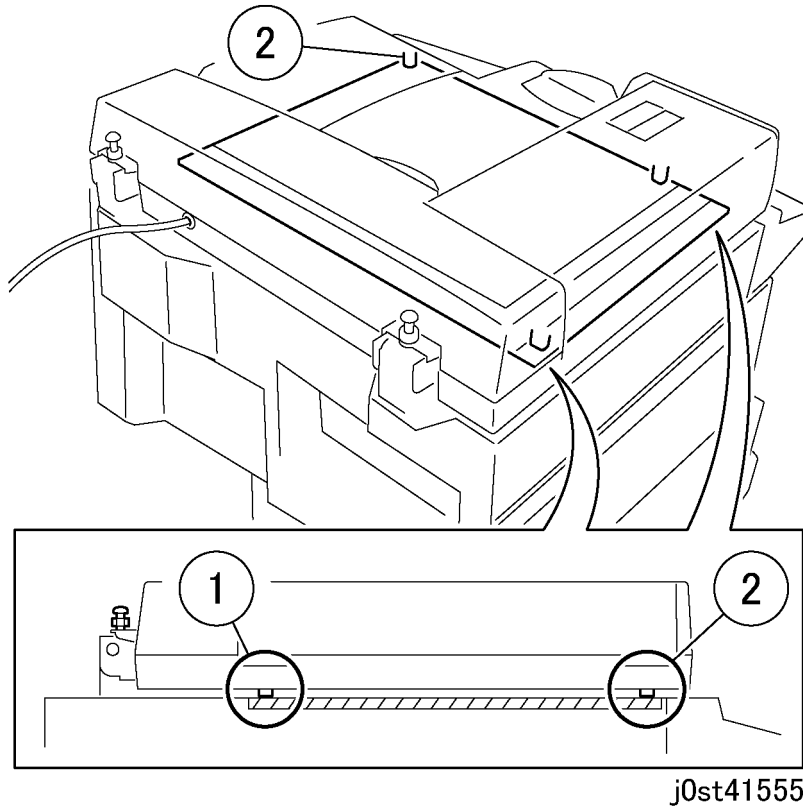

Figure 1 Checking the gap between the DADF Platen Guide and the Platen Glass (j0st41555)
1. Check the gap between the DADF Platen Guide tips (x3) and the Platen Glass or DADF Platen Glass. (Figure 1)